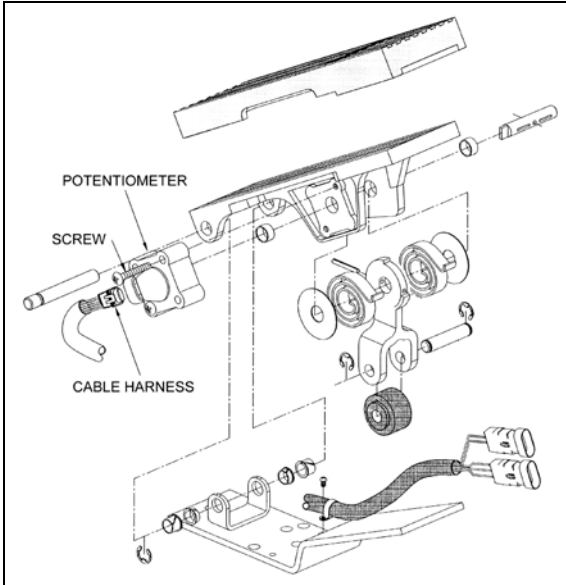

FIGURE 12: ELECTRONIC FOOT PEDAL ASSEMBLY 03035
3. Discard potentiometer (Fig. 12).
4. Position new potentiometer. Press potentiometer onto the potentiometer shaft, matching cutouts in shaft to drive tangs of potentiometer. Apply hand pressure until potentiometer has bottomed out in housing. Reinstall screws (Fig. 12) and tighten just enough to secure potentiometer lightly. Tighten screws to 10 - 20 lbf•in (1.5 - .2 N•m).